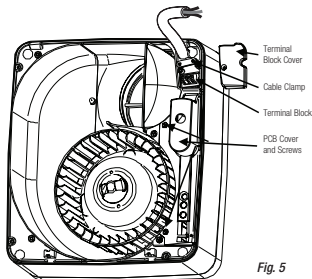

Fig. 5
11. Replace the terminal block cover (Fig. 5).
5. Attach the ducting to the spigot and locate the fan into the hole in the panel. Feed the wiring through the hole in the chassis next to the terminal block as you do so (Fig. 5).
8. Replace the terminal block cover (Fig. 5).
- Use the cable clamp provided (Fig. 5).